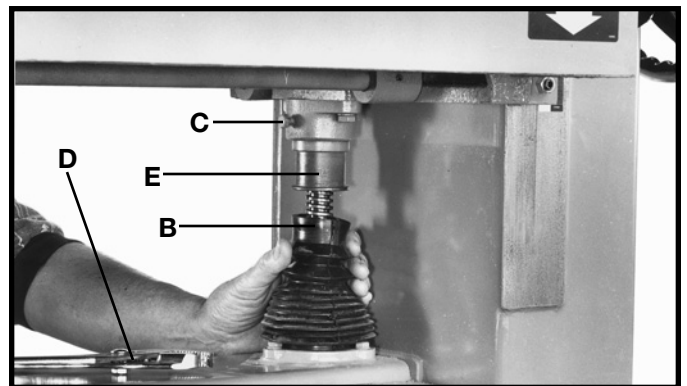

Fig. 51
5. If the table is not parallel to the cutterhead, lower boot (B) Fig. 51, which is located underneath the table. **NOTE:** Table elevating handwheel must be unlocked when making this adjustment.
6. Loosen lock screw (C) Fig. 51, and with large pliers (D) turn adjustment sleeve (E) as necessary until table is parallel with the cutterhead. Tighten lock screw (C) after adjustment is made and replace boot (B). **NOTE:** The same adjustment can also be made on the other side of the planer if necessary.